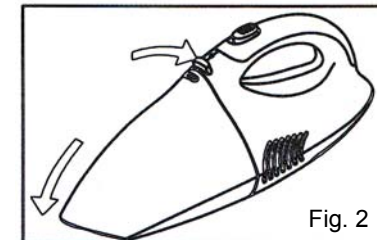

Fig. 2
- To open the dust cup compartment, push the dust cup release button and remove the dust cup container. (Fig. 2)